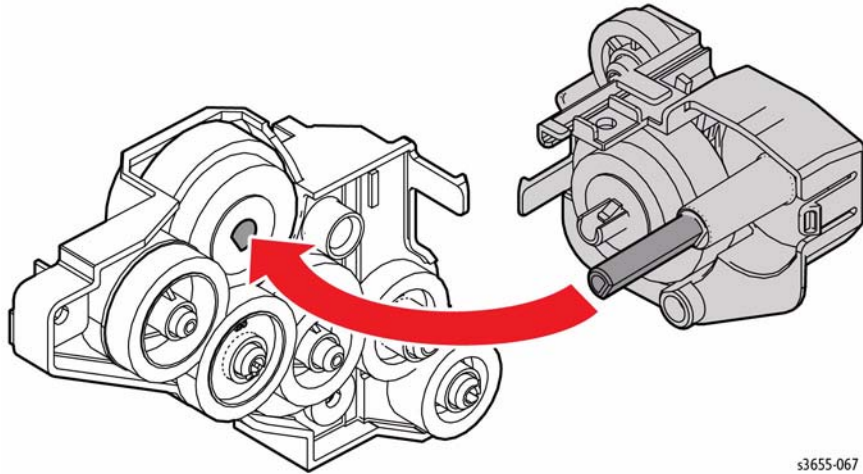

Figure 6 Engage the Shaft with the Clutch
2. Refer to Figure 6 to locate and fit the D-shaped shaft of the Exit Invert Drive Assembly into the D-shaped hole of the exit clutch.